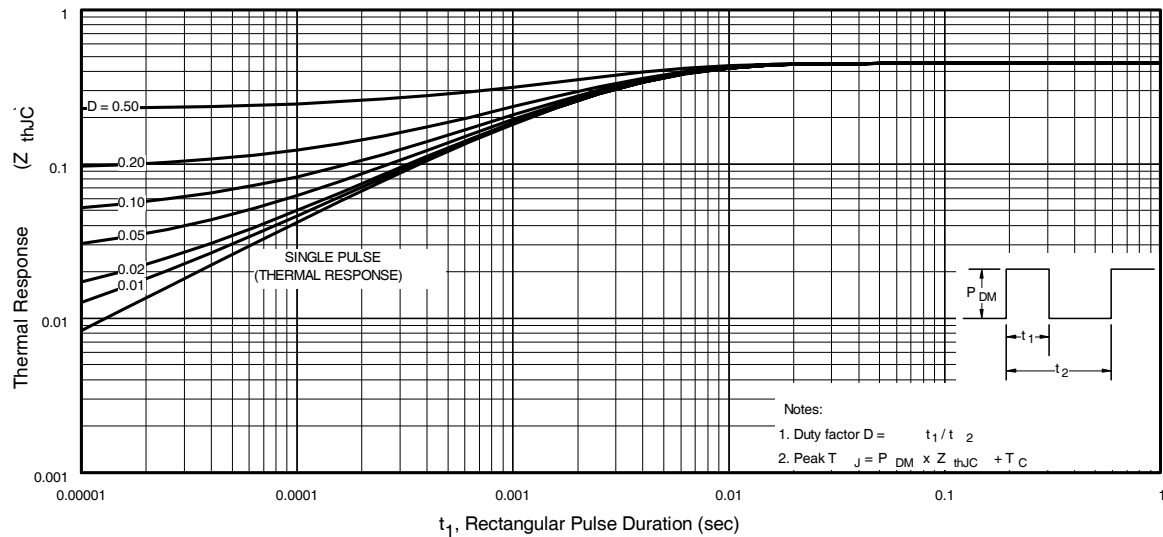

Fig 11. Maximum Effective Transient Thermal Impedance, Junction-to-Case
- ① Repetitive rating; pulse width limited by max. junction temperature. (See fig. 11).
- ② Starting $T_J = 25^\circ\text{C}$, $L = 0.13\text{mH}$
$Z_{thJC}(D, t_{av})$ = Transient thermal resistance, see figure 11)